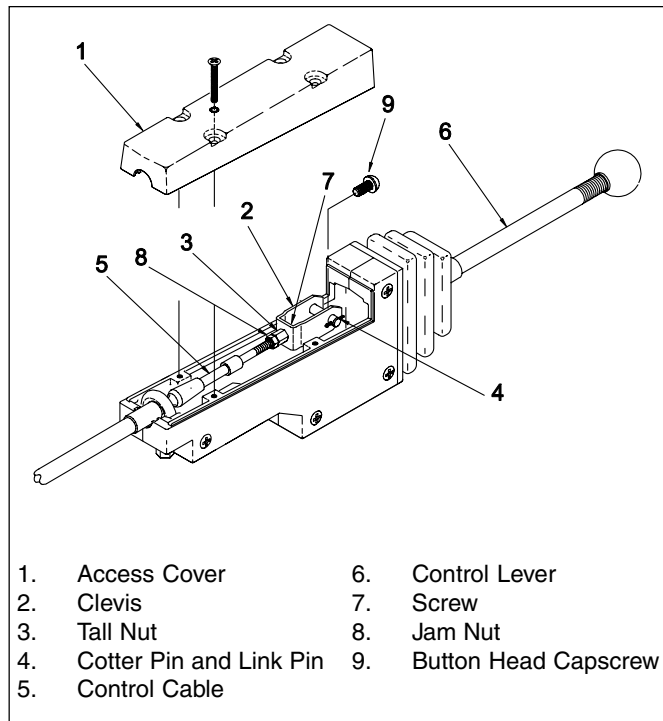

Figure 17 - Control Cable Adjustments
**B.** See Figure 17. Make sure the positions of the power control lever are the same as the position indicators on the decal. Remove the access cover (Item 1) on the housing to make adjustments. Loosen the jam nut (Item 8) that keeps the tall nut (Item 3) from turning and remove the button head capscrew (Item 9). Remove the cotter pin and link pin (Item 5) from the clevis (Item 2). Turn the tall nut and clevis to adjust the length of the control cable (Item 5). Use the link pin and cotter pin to connect the clevis to the control handle again and check the operation. When the adjustment is complete, install the access cover.